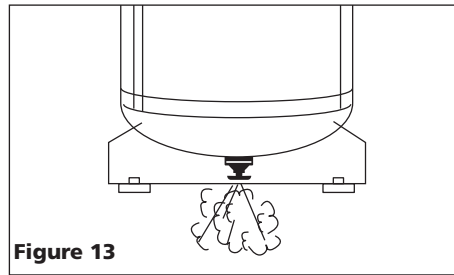

Figure 13
2. Drain Tank. With compressor shut off and pressure released: Drain moisture from tank by opening drain valve underneath tank (See Figure 13).